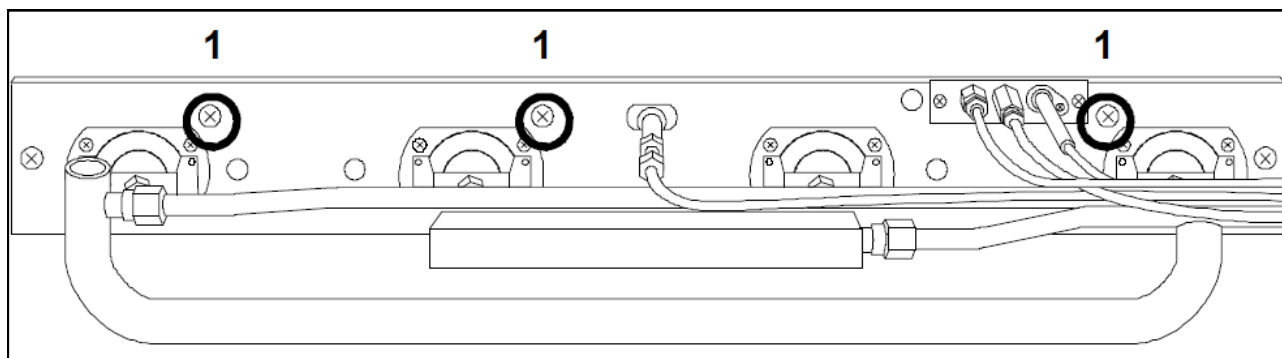

FIG.17 (Substitution interignition burner)
- Unscrew the 3 screws that hold the burner support in place (FIG.17-Ref.1);